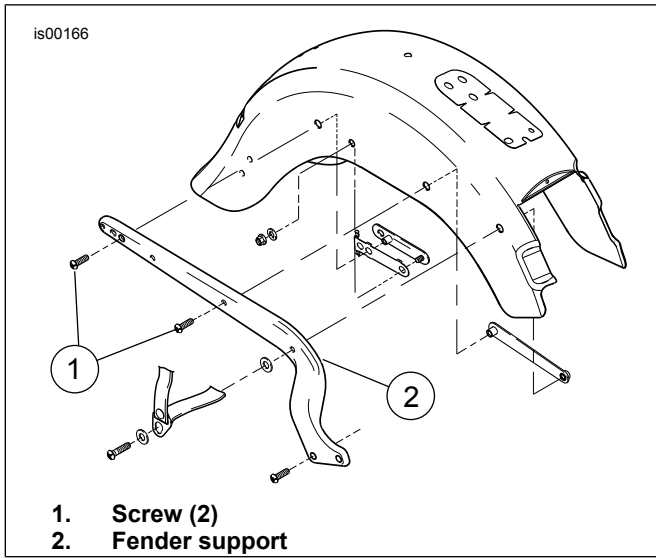
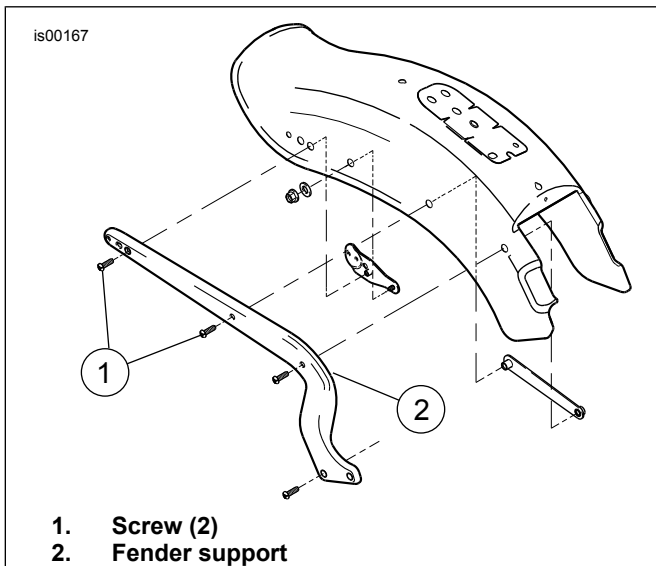

Figure 1. Remove Screws (FLST/C/F)
Figure 2. Remove Screws (FXST/S/B)
7. See Figure 1 or Figure 2 for your model motorcycle. Remove and discard stock screws from fender support.